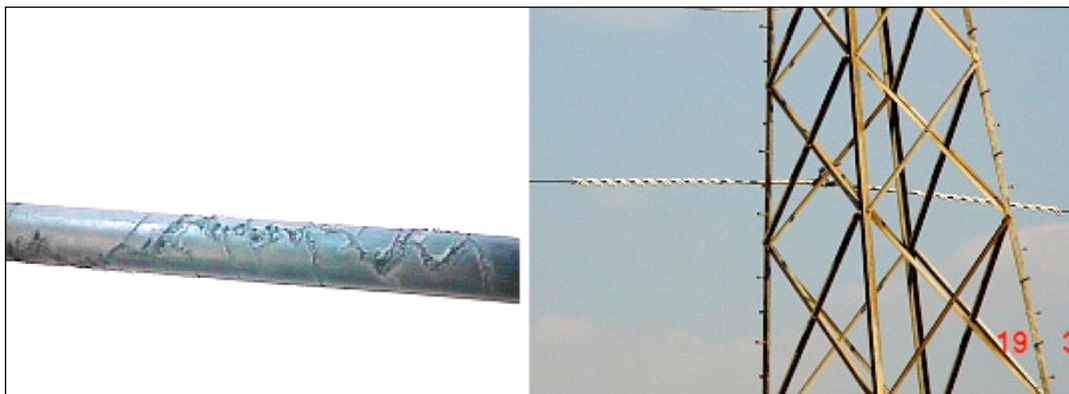

Figure 9: Arcing Damage and Spiral Dampers
- e) Check the fibre Optic cable for dry band arcing damage to sheath where possible (see figure 9).